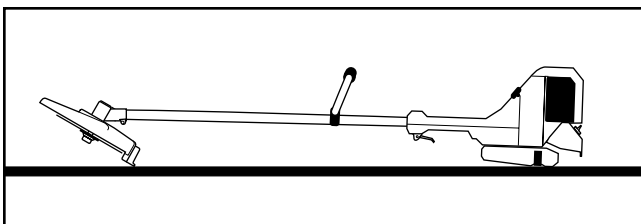

Fig. 19
**NOTE:** When storing the unit, place the unit flat on the floor instead of hanging it by the guard or the cutting head (Fig. 19).